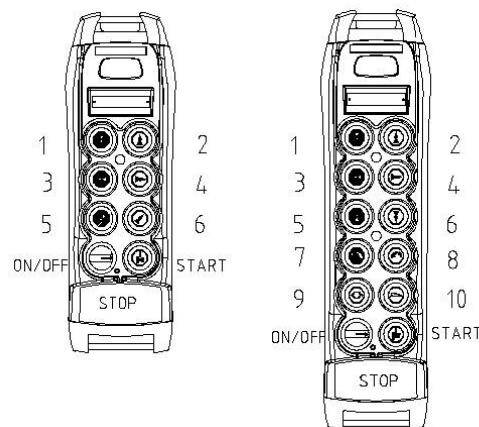

Figure 11. TX Pushbutton/Switch Numbers/Names
4. To copy the EP70 Memory Module contents into the internal memory of the transmitter, press transmitter **Pushbutton 6** (see Figure 11) followed by **START**; keep both buttons **simultaneously pressed for five (5) seconds**. The LED will blink orange during the copying process. (In the LCD display models, the word 'Reading...' will display.)
6. Insert the **original transmitter EP70 module** into the transmitter socket. Press transmitter **pushbutton 6** (see Figure 11). The LED will flash orange indicating the resident EP70 Memory Module is being written to with the stored receiver parameters. (In the LCD display models, the word **Writing...** will display.)